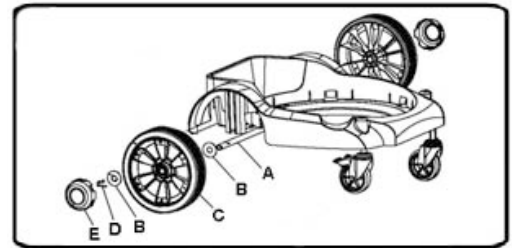

Figure 4
- 2) To assemble the large wheels to the base, first insert the wheel shaft (A) Fig.4 into the rear support block, slide a washer (B) on the shaft, then slide wheel (C) on the shaft, then another washer (B). Insert cotter pin (D) into the hole at the end of the shaft to lock wheel. Snap the wheel hub (E) onto the wheel. Repeat these steps to install the other wheel.